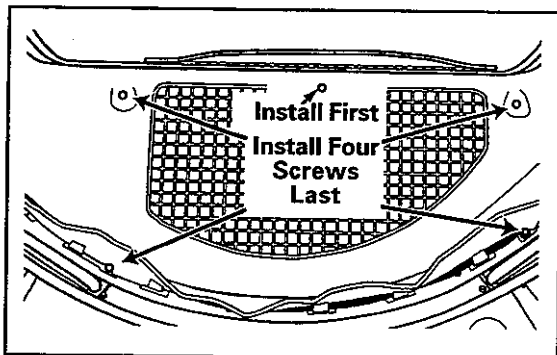

Figure 10-3
4. When reattaching the outlet duct assembly to the tumbler front, install the center screw (found above the grid area) first, followed by the four outside screws in any order (*Figure 10-3*).